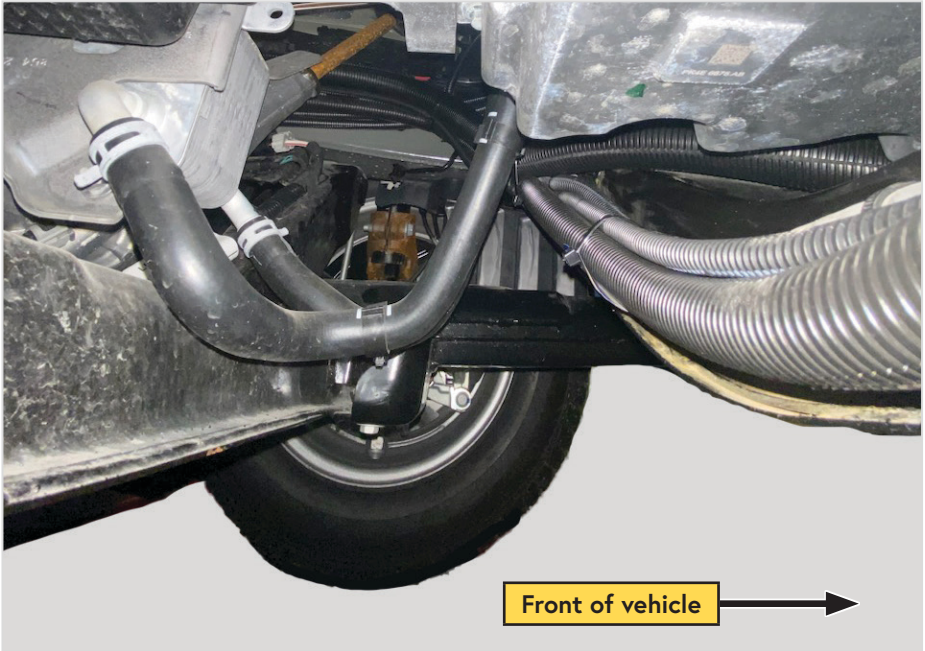

Figure 39 — Route hoses under the oil pan
- Route the hose bundle under the rear of the engine towards the driver side of the vehicle (Figure 39).